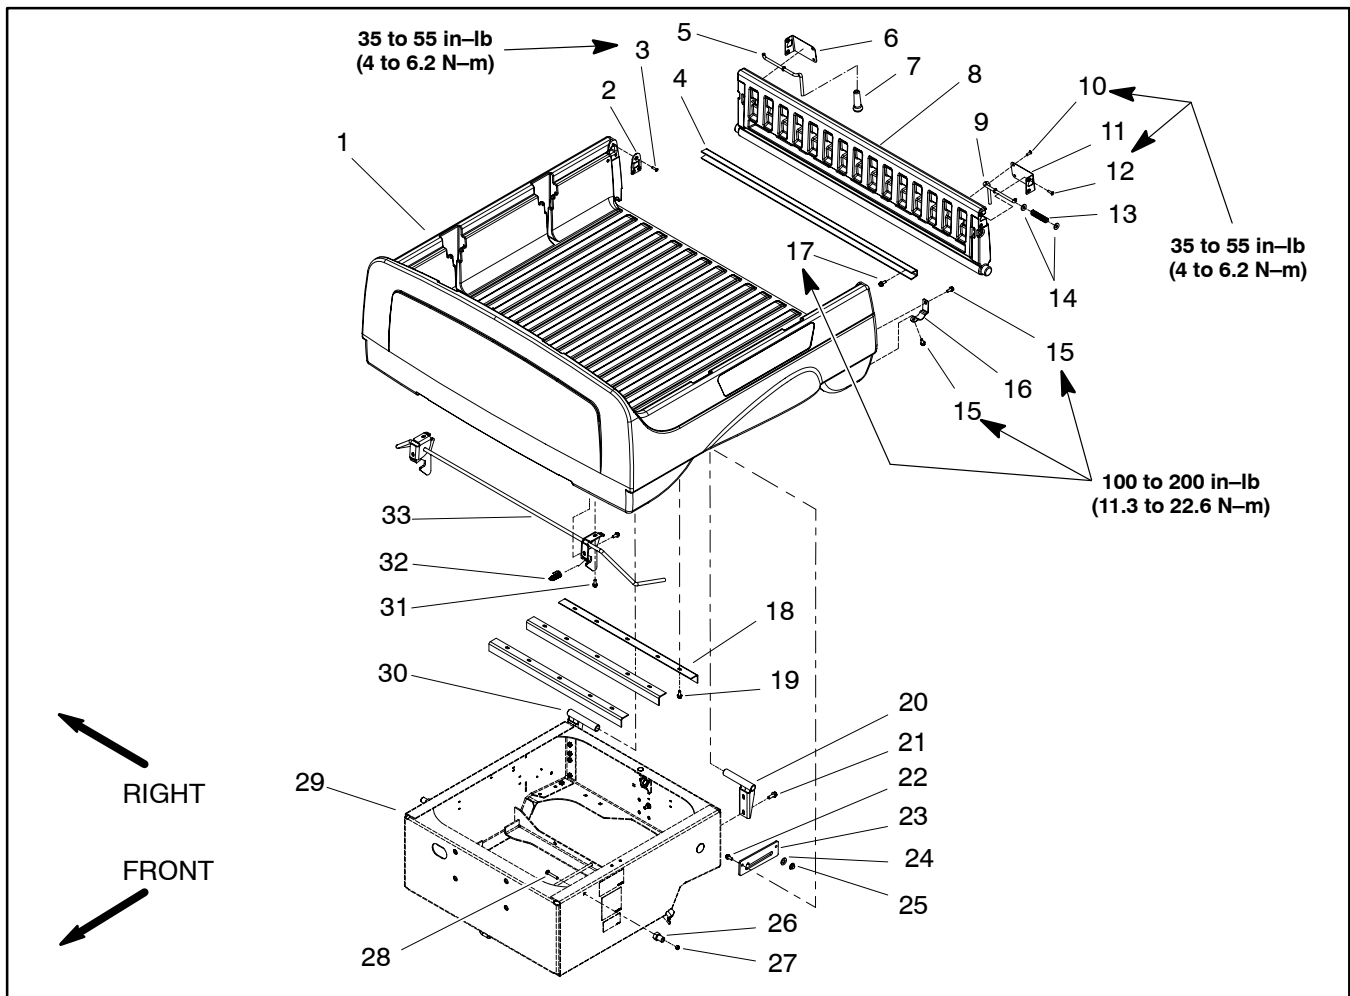

Figure 16
## Removal (Fig. 16)
2. Remove two (2) flange head screws (item 21) that secure RH and LH pivot brackets (items 30 and 20) to the rear frame.
3. Release latch rod (item 33) from the latch pins (item 26). Remove cargo bed from the frame. Disassemble cargo bed as necessary using Figure 16 as a guide.
## Installation (Fig. 16)
1. Reassemble cargo bed using Figure 16 as a guide.
2. Position cargo bed to the frame locking the latch rod (item 33) to the latch pins (item 26).
3. Secure both pivot brackets (items 30 and 20) to the rear frame with flange head screws (item 21).